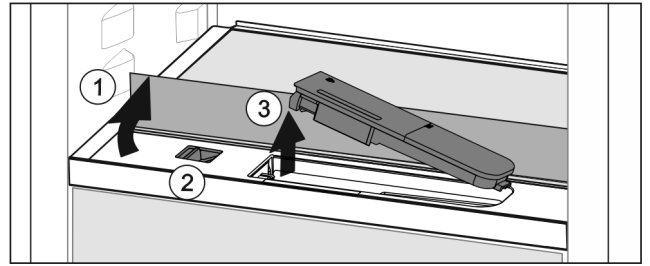

Fig. 109
- ▶ Lift the glass panel and fold towards the rear until it clicks into place Fig. 109 (1).
- ▶ Slide the slider Fig. 109 (2) to the left.
- ▶ Remove the water tank Fig. 109 (3).